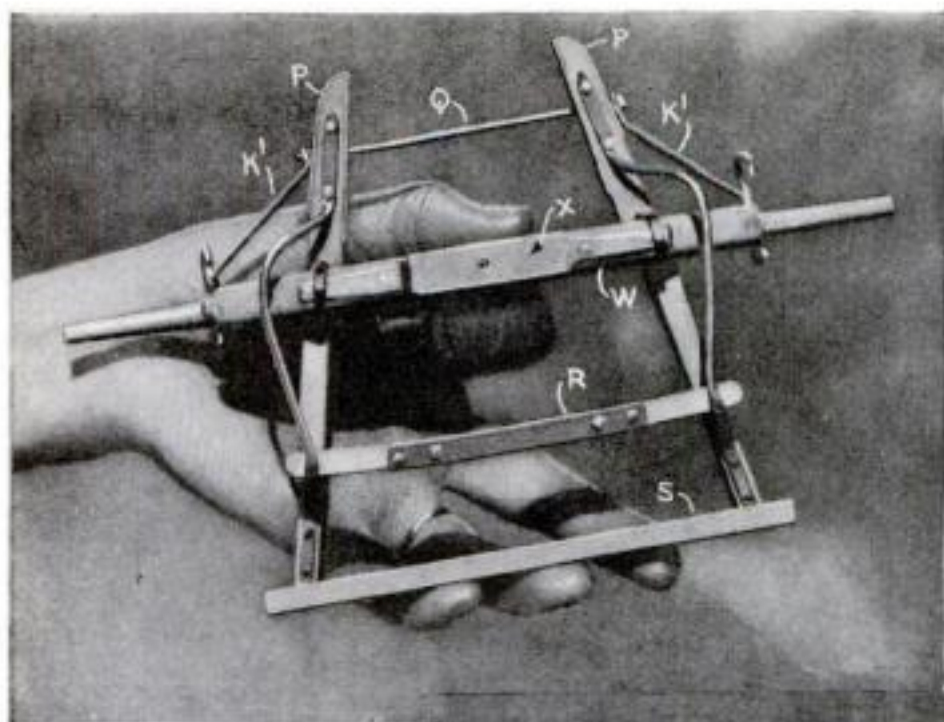

Fig. 6. Top view of the front hounds *P* assembly showing sand board *W* and sand plate *X*.
**SAND BOARD:** Designated by *W* in Figs. 6 and 9. Make a cardboard pattern. Note rounded parts, sand plate, and hound notches.
**Front (P):** Butt the end crosspieces and nail, making the tenon ends with a plastic wood composition. Notice the crosspiece *S* and fifth wheel *R* (see Figs. 6, 7, and 9), and the wooden beads between sand board *W* and axle *O*.